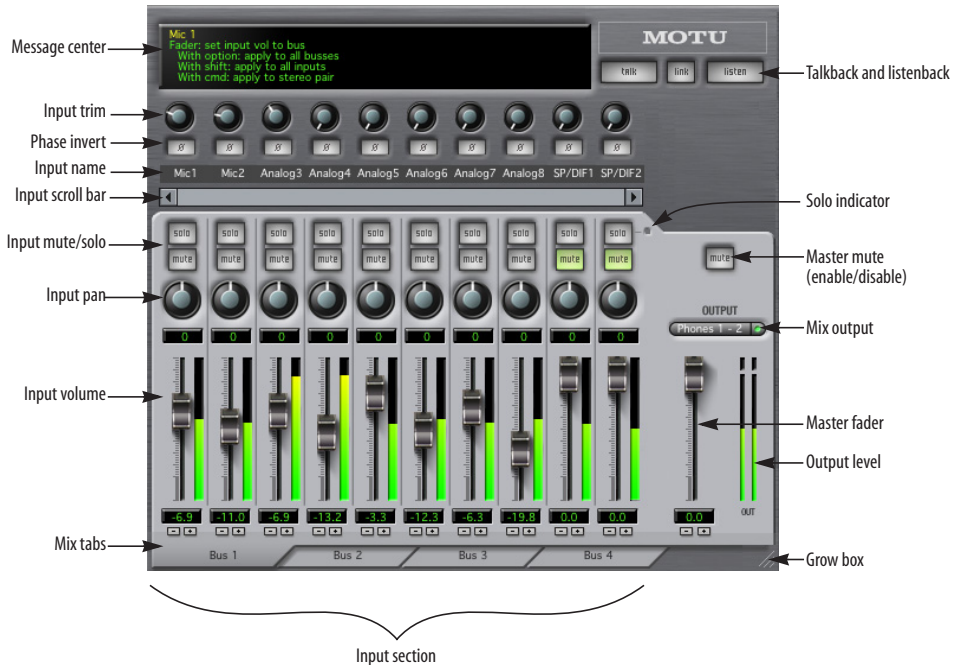

Figure 11-1: CueMix Console is a virtual mixer that gives you control over the UltraLite's on-board mixing features.
CueMix Console displays one mix at a time. To select which mix you are viewing, click its tab at the bottom of the window, as shown in Figure 11-1. The mix name appears in the tab. Double-click the name to change it.
The settings at the top of the CueMix Console window (above the channel section) apply to all mixes. These settings include the *Input Trim* and *Phase Invert* for each input (Figure 11-1 on page 57).
To view a mix, click its tab at the bottom of the window, as shown in Figure 11-1. The mix name appears in the tab.
The master mute button (Figure 11-1) temporarily disables (silences) the mix.
The master fader (Figure 11-1) controls the overall level of the mix (its volume on its stereo output). Use the individual input faders to the left to control individual input levels.
To add an input to a mix, or remove it, click its MUTE button. To solo it, use its SOLO button. To toggle these buttons for a stereo pair, hold down the control key while clicking either channel. The Solo indicator LED (Figure 11-1) lights up when any input is soloed (including inputs that may currently be scrolled off-screen).
Use the input fader and pan knob (Figure 11-1) to adjust these settings for the input in the mix. Again, all settings within the gray-shaded channel strip area belong to the mix currently being viewed. Note that an input can have different settings in different mixes.
- 1 Select the source mix (Figure 11-1) and choose Copy from the file menu (or press control-C).
The input trim and phase invert settings at the very top of the CueMix Console window (Figure 11-1) affect each input globally, across all mixes and for
All inputs, both analog and digital, can be phase inverted. This setting (Figure 11-1). This is the same phase invert setting as can be made from the front panel, as explained in “PAGE” on page 35.